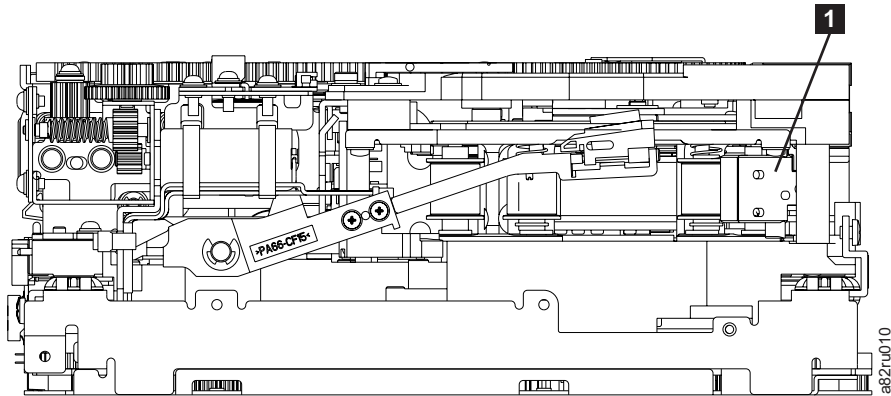

Figure 6-11. Leader Block Assembly (LBA)
9. Rotate the threader motor worm gear (**4** in Figure 6-10 on page 6-13) to turn the threader mechanism gear (**6** in Figure 6-10 on page 6-13) counterclockwise. This moves the LBA out of the cartridge and past the read/write head. Stop this rotation when the LBA is near the tape guide roller nearest the rear of the drive shown as **1** Figure 6-11.